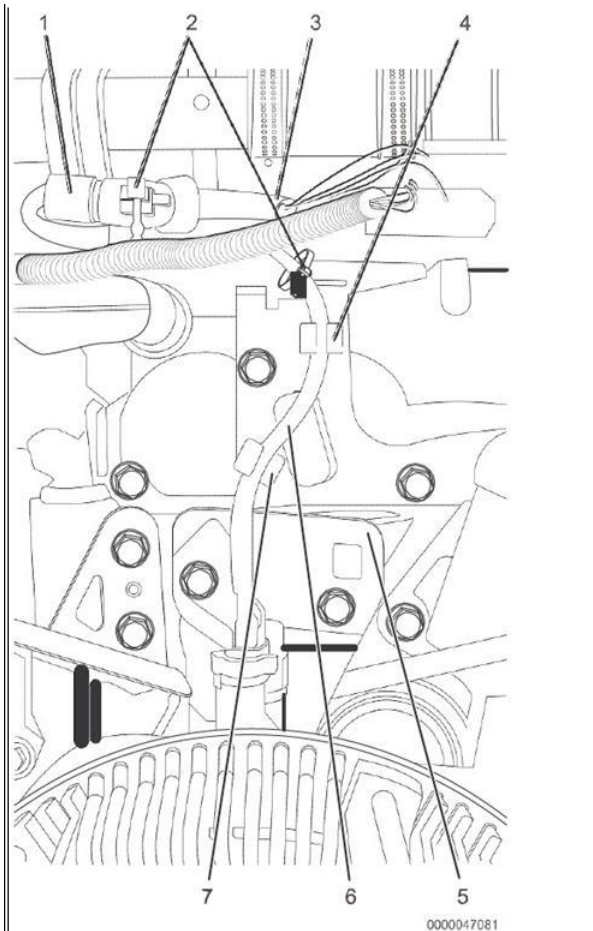

Figure 1. Fan Clutch Harness
5. Remove two tie straps (Figure 1, Item 2) securing fan clutch harness (Figure 1, Item 6) to engine harness (Figure 1, Item 3) and fan clutch harness bracket (Figure 1, Item 5). Discard tie straps.
6. Remove harness from upper and lower push pins (Figure 1, Items 4 and 7).
- o a. If secured with two push pins, discard lower push pin (Figure 1, Item 7)
7. Inspect fan clutch harness (Figure 1, Item 6a) for signs of wear from contact with sharp or hard surfaces of harness bracket (Figure 1, Item 5).
8. Disconnect harness connector (Figure 1, Item 1).